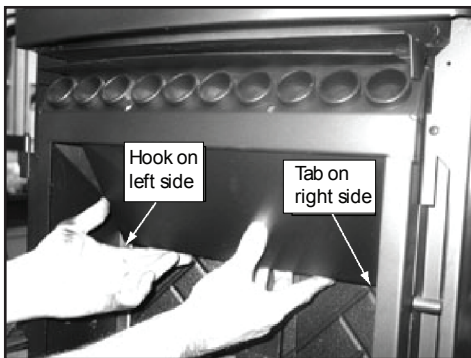

Figure 21.1
2. The top baffle has a hook on the bottom left side that rests on the top lip of the cast brick. There is a tab on the bottom right side that hooks into the side bracket. Remove the top baffle by first pulling the baffle forward until back edge drops down. Then slide baffle back until the front edge clears the shelf that it had been resting on. **Figure 21.1.**